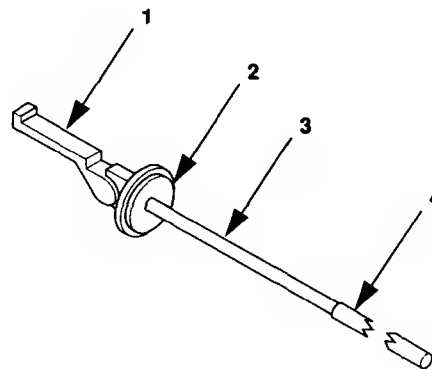

Figure 2-17. Auxiliary Fuel Source *(Typical).*
- b. Disconnect auxiliary fuel hose from fitting on container adapter (2, figure 2-17).
- d. Remove extension pipe (4), pipe (3), adapter (2), and strainer clamp (1) and store in the accessory box.